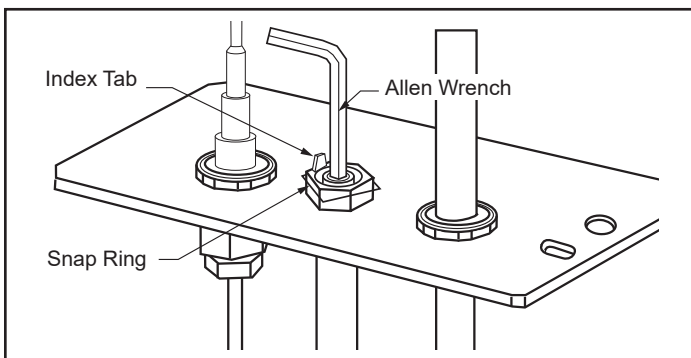

Figure 54 - Remove pilot orifice.
- Remove pilot orifice with allen wrench. (Figure 54)